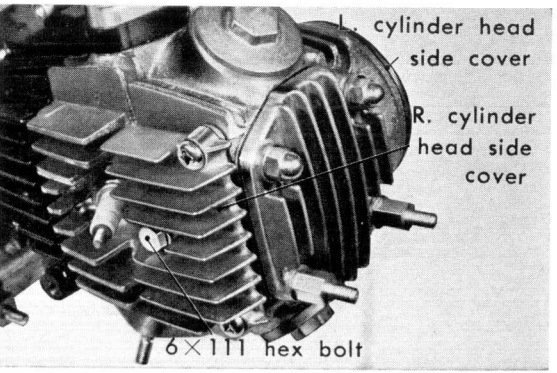

Figure 3-20. Removing R & L cylinder head cover
- (5) The right and left cylinder head side cover can be separated by removing the 6mm hex bolt. (Fig. 3-20)
- (6) Remove the cylinder head.